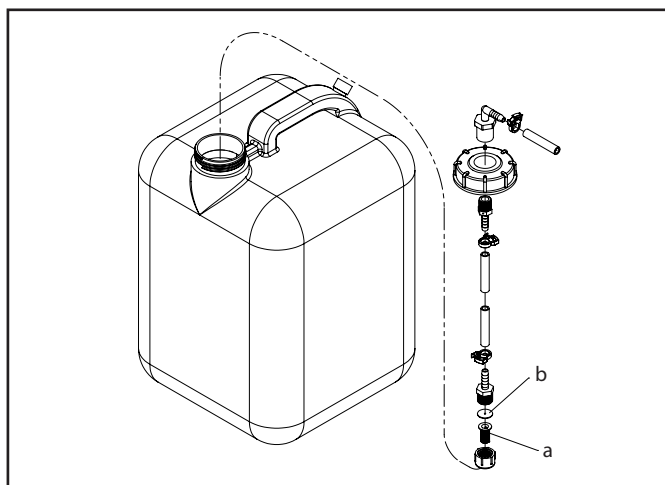

Figure 6: Foamer Tank Assembly
1. Liquid Strainer (a) (Figure 6): The liquid strainer is located in the foam solution tank on the end of the suction hose. It should be rinsed after each use or on a daily basis.
2. Orifice Disk (b) (Figure 6): The orifice disk is located behind the strainer on the end of the suction hose. Inspect the orifice disk occasionally to ensure that there are no debris or dirt plugging the disk's circular hole. **WARNING:** Do not operate the foam marker without this orifice disk. Such incomplete operation will result in damage to the compressor and will void the warranty.
Plugged orifice disk or strainer on the end of the suction hose	Clean or replace the orifice disk or stainer (See figure 6, page 7)